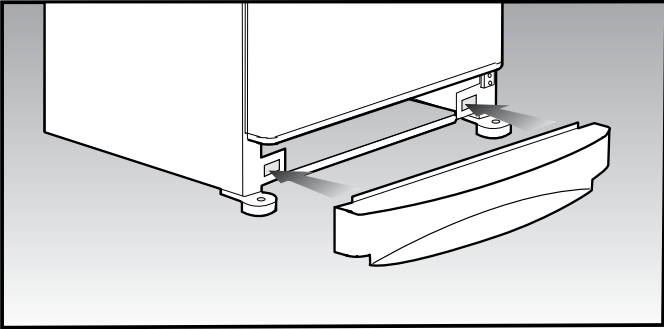

Fig.4
- Fit the bottom airing lid given in your appliance as shown in the diagram to the pins facing one another on the feet at the bottom of the door. Make sure claws and pins to hold each other for the pins-claws connection (**Fig. 4**).